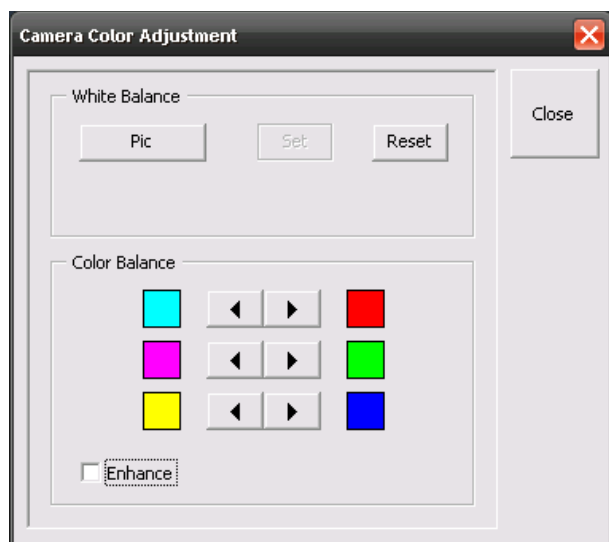

Fig. 25 Camera Color Adjustment window
- The **Camera Color Adjustment** window appears on the screen (see Fig. 25).